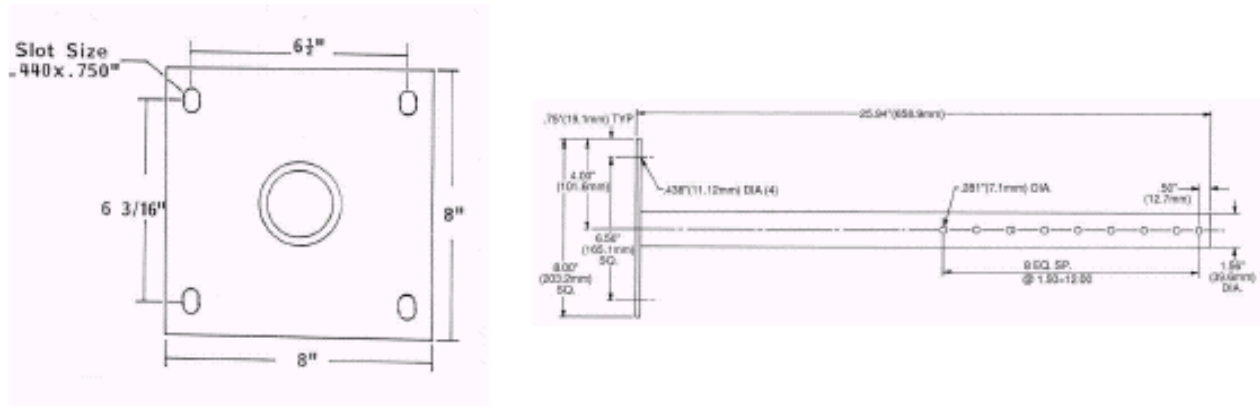

Figure 1. CMA-100 Flat Ceiling Plate with Adjustable Extension Column
1. Securely install the ceiling plate to the ceiling or ceiling joists (**NOTE: SEE WARNING!!**) Bolt hole spacing is shown on Figure 1.